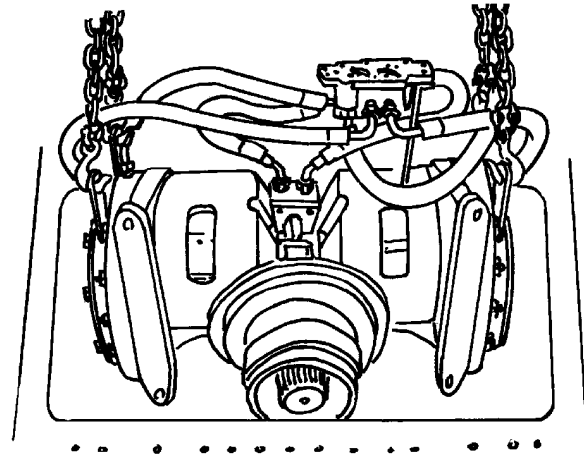

Fig. 7E.8. Removing the Steering Drive
14. Attach a hoist with an adjusting sling to the steering drive as shown in Fig. 7E.8 and take up the slack.